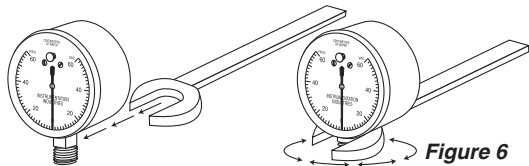

Figure 6
3. Place a wrench on the square fitting next to the gauge case to finish tightening. (Figure 6)